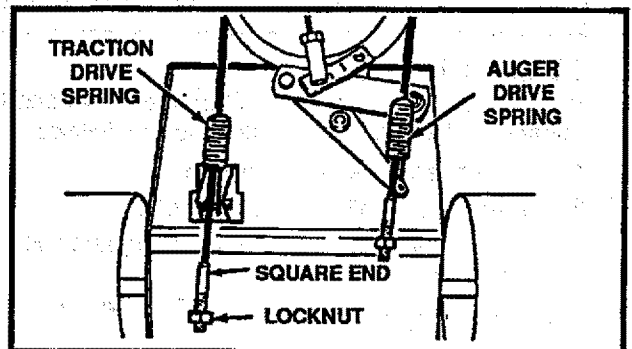

FIG. 25
- Push the cable through the spring (See Fig. 25) to expose the threaded portion of the cable.